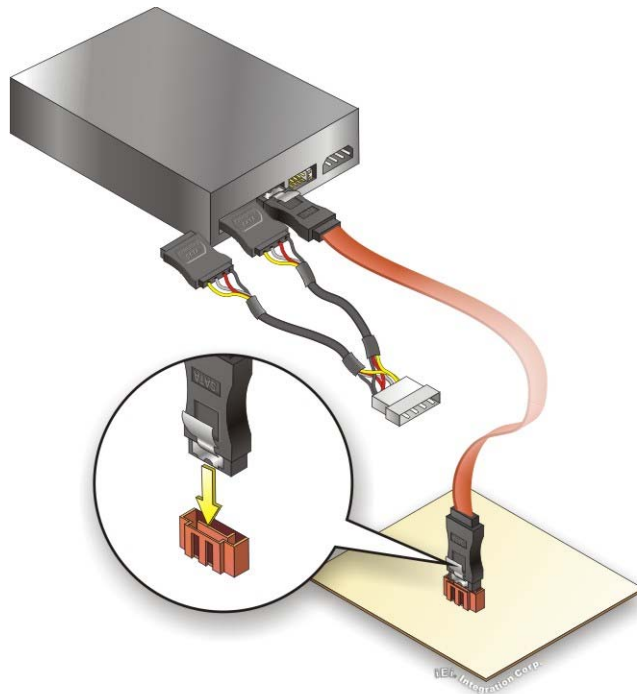

Figure 4-13: SATA Power Drive Connection
- Step 3:** **Connect the cable to the SATA disk.** Connect the connector on the other end of the cable to the connector at the back of the SATA drive. See **Figure 4-13**.
- Step 4:** **Connect the SATA power cable (optional).** Connect the SATA power connector to the back of the SATA drive. See **Figure 4-13**.